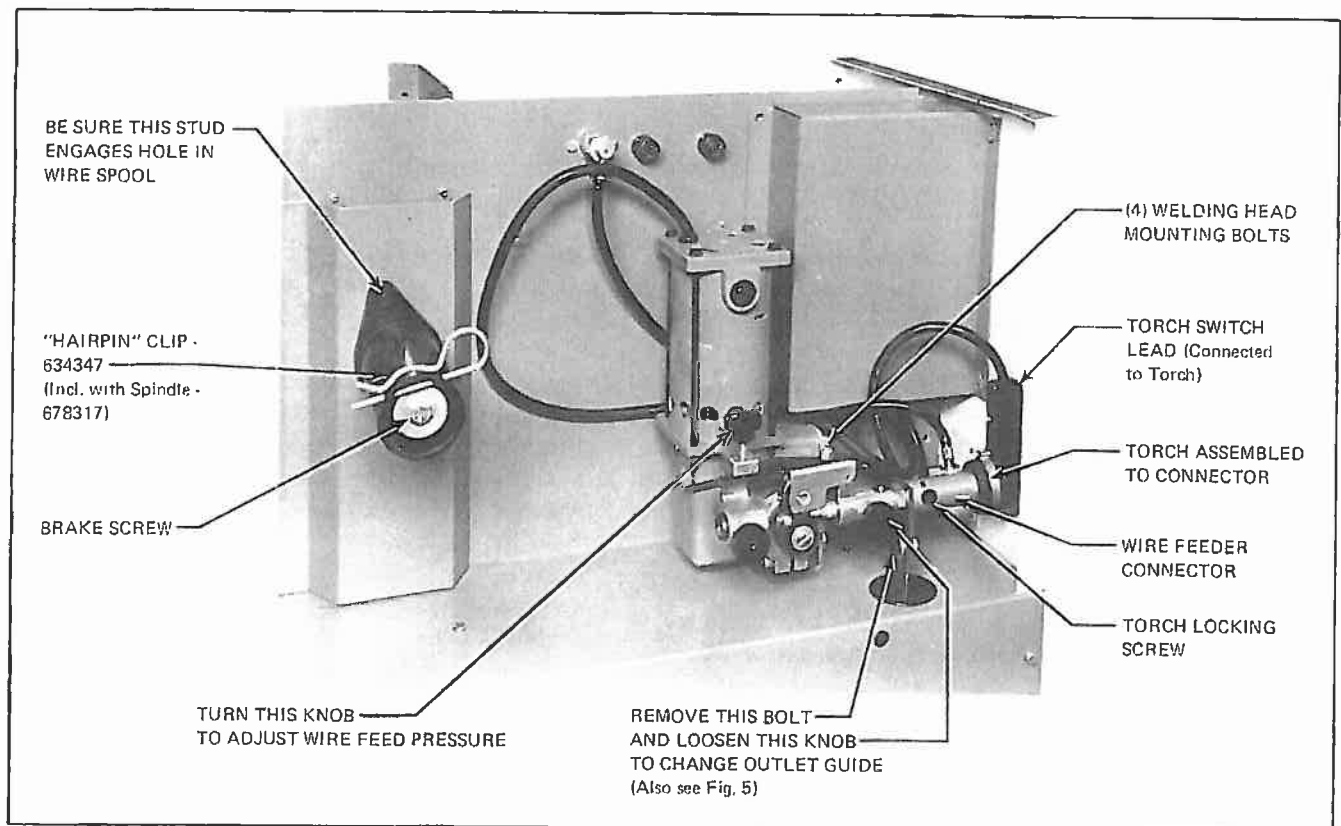

Fig. 6 - Wire Feed Components, LINDE 225
3. Slide the spool onto the spindle. Be sure one of the small holes near the center of the spool engages the stud on the spindle (see Fig. 6).
5. Loosen the brake screw in the center of the spindle hub, (see Fig. 6), then tighten it just enough to prevent coasting of the spool when wire is drawn from it. Too much pressure will load the feed motor unnecessarily. Too little pressure will permit the spool to over-run, causing the wire to kink and tangle.
3. With the left side (hinged) panel open, unscrew the torch locking screw from the wire feeder connector (see Fig. 6).
7. Straighten out the torch cable and apply power to the unit. On the unit's front panel turn the Fine Adjustment Knob to about 3-6. Adjust the pressure required to feed the wire by alternately pressing and releasing the torch switch while slowly tightening the pressure adjusting knob (see Fig. 6), until the wire begins to feed without slipping. The spring pressure applied should be the minimum required to provide positive, nonslip wire feed. Too little pressure will result in wire slippage while excessive pressure will scar and deform the wire.
1. Loosen the right-hand knob of the pressure roll and clamp assembly (see Fig. 6).
2. Remove the nut and bolt and 2 washers holding the copper bus bars together, just beneath the wire feeder connector (see Fig. 6).